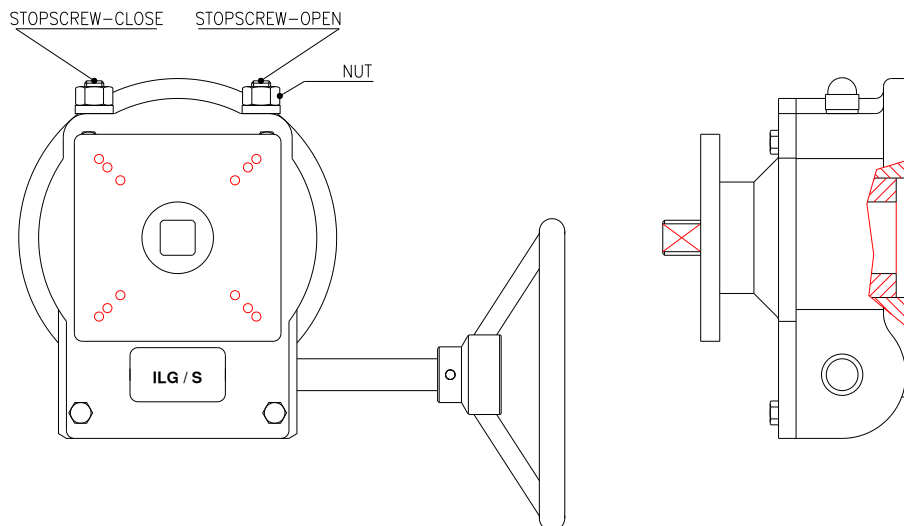

figure 4 : ILG/S gearbox stopscrew adjustment
5. Turn the handwheel counterclockwise to put the gearbox (and valve) in fully open position. When the full open position can not be achieved, loosen the stopscrew-open of the gearbox (see figure 4) and check the travel stop adjustment of the actuator. Continue turning the handwheel until the valve is fully opened.
8. The actuator must also return (the valve) to its fully closed position. When the fully closed position can not be achieved, loosen the stopscrew-close of the gearbox (see figure 4) and check the travel stop adjustment of the actuator.